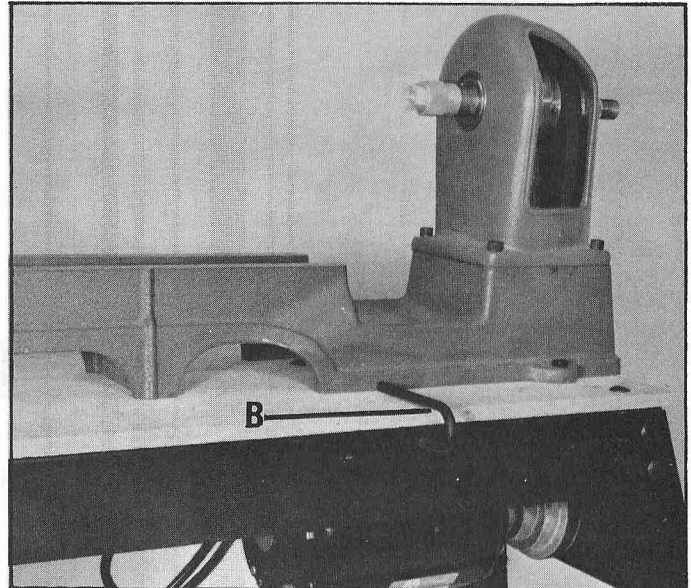

Fig. 20
3. Release the belt tension by lifting up on the motor. Use support tool (B) Fig. 20, to hold the motor in the raised position while positioning the belt.
4. Position belt on the desired steps of the spindle and motor pulleys and remove support tool (B) Fig. 20.